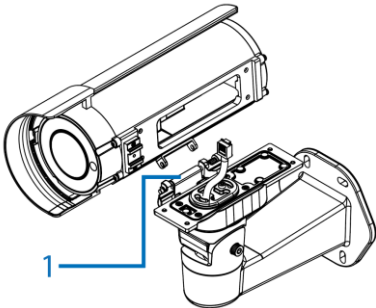

Figure 9
3. Push the pin (1) (Figure 9) and place the camera onto the hinge and release the pin so that the camera is attached to the mounting arm plate.